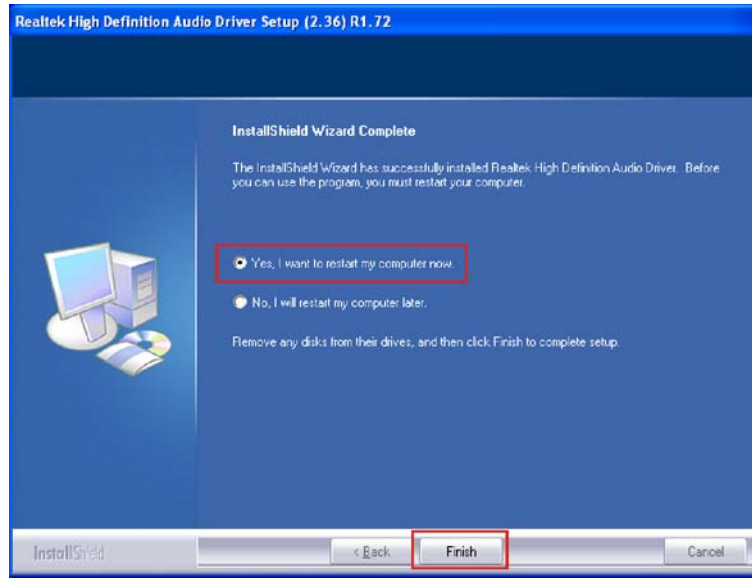

Figure 7-23: Installation Wizard Finished
Step 5: Don't click on any screens until the final screen appears (**Figure 7-23**).